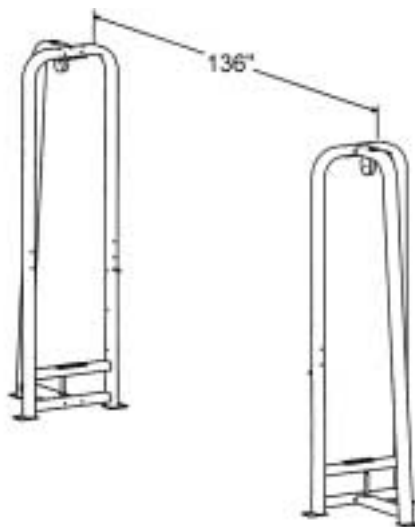

Figure 2. Set the weight stack cells.
- 1. Place the two weight “cells”** in their final resting spots. The cells will be approximately 11'4” apart as shown in Figure 2.